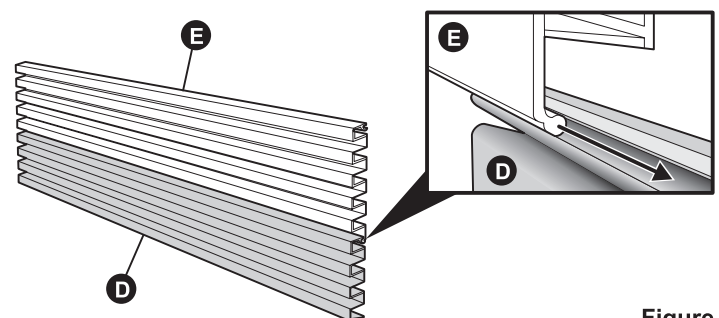

Figure 2
2. Slide large grille (E) and small grille (D) together. See Figure 2. Make sure ends are flush then tape together to prevent parts from sliding.